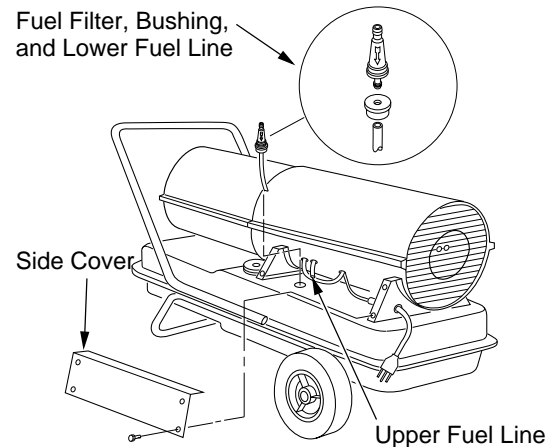

Figure 16 - Fuel Filter Removal, 115T/165T Models
4. Carefully pry bushing, fuel filter, and lower fuel line (115T/165T models only) out of fuel tank (see Figure 16).